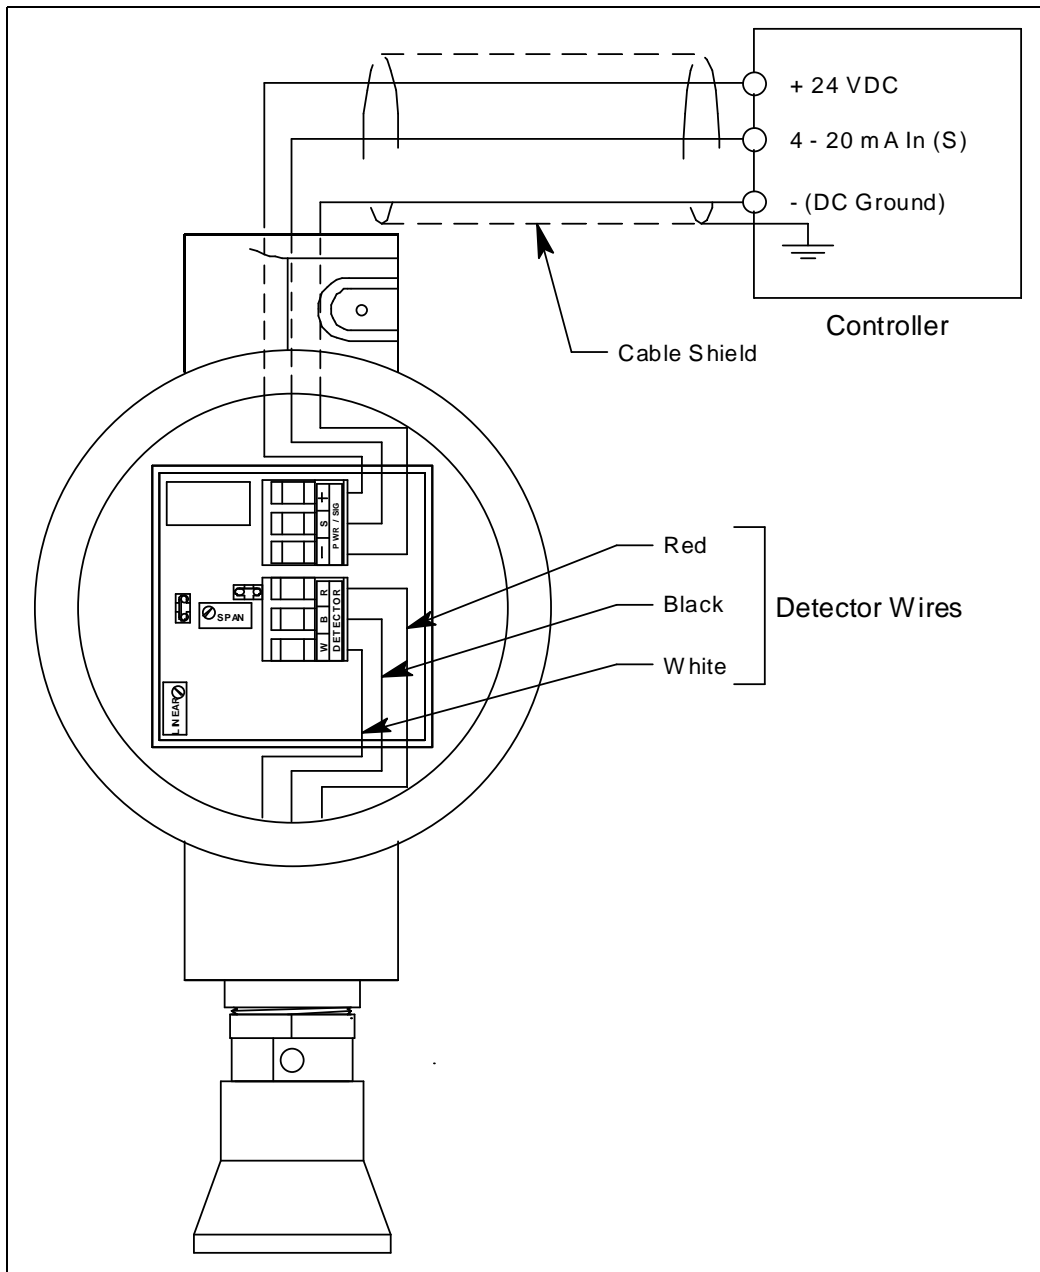

Figure 4: Wiring the PPM Hydrogen Transmitter to a Controller
4. The detector leads are factory wired. Verify that the detector leads are wired to the amplifier's detector terminal strip as shown in Figure 4.
7. Pull out the controller terminal strip, and connect the three wires to the terminal strip as follows (see Figure 4).
11. Connect the wires to the applicable detector/transmitter terminal strip at the controller as shown in Figure 4.
8. Connect the detector leads to the detector terminal strip as shown in Table 3 below and Figure 4 on page 11 of this manual.
7. Install the detector and controller terminal strips into their sockets on the new amplifier as shown in Figure 4 on page 11 of this manual. If controller leads or detector leads were removed during this procedure, refer to Tables 4 and 5 below.